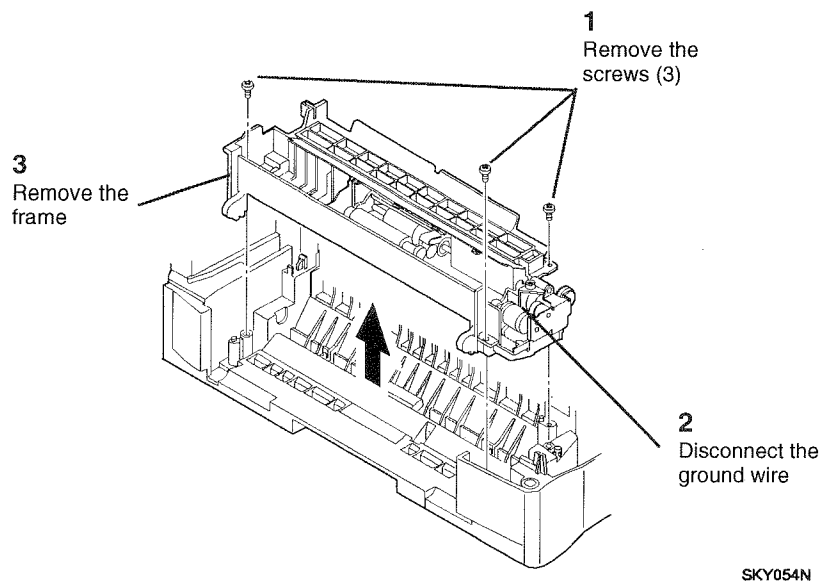

Figure 2 Removing the Bypass Frame
3. ( Figure 2): Remove the Bypass Frame.